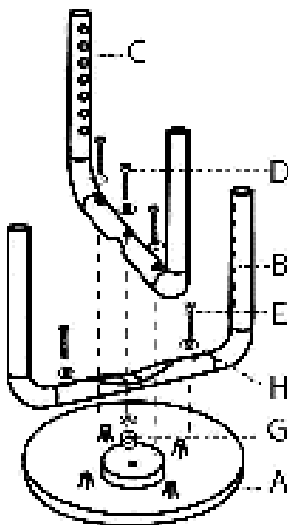

Fig. 4
2. Assemble legs as show in Fig. 4.